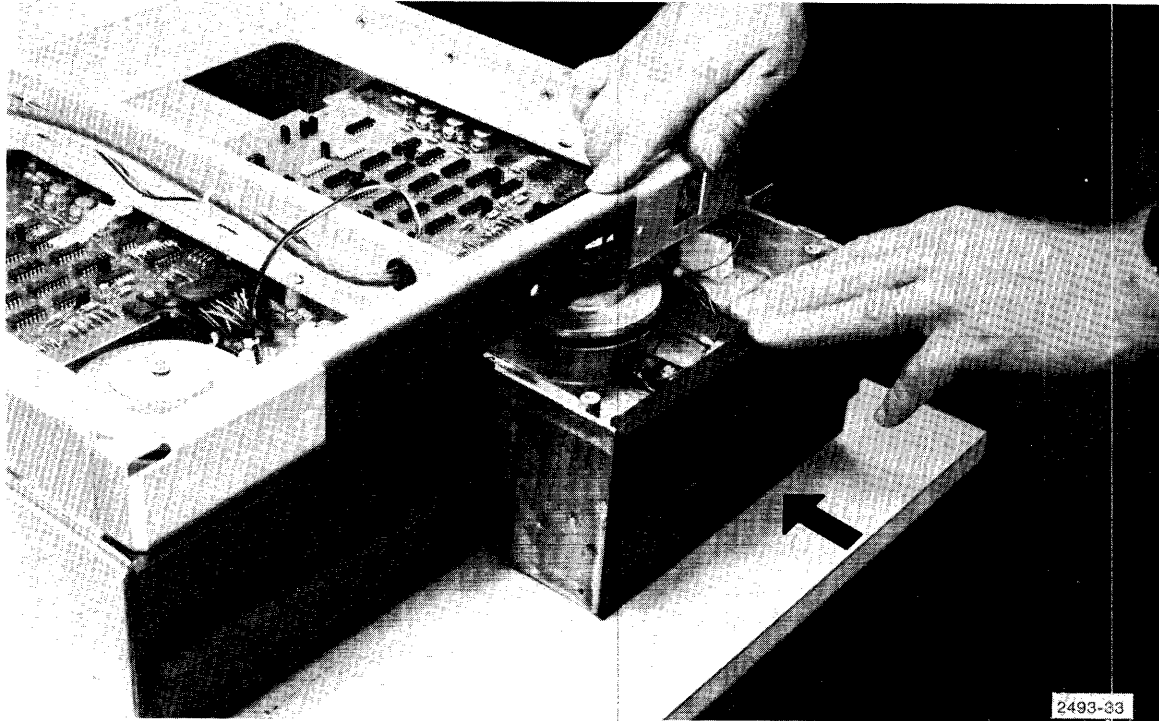

Figure 7-7. Sliding drive into chassis.
- k. Slide drive into chassis (Figure 7-7).